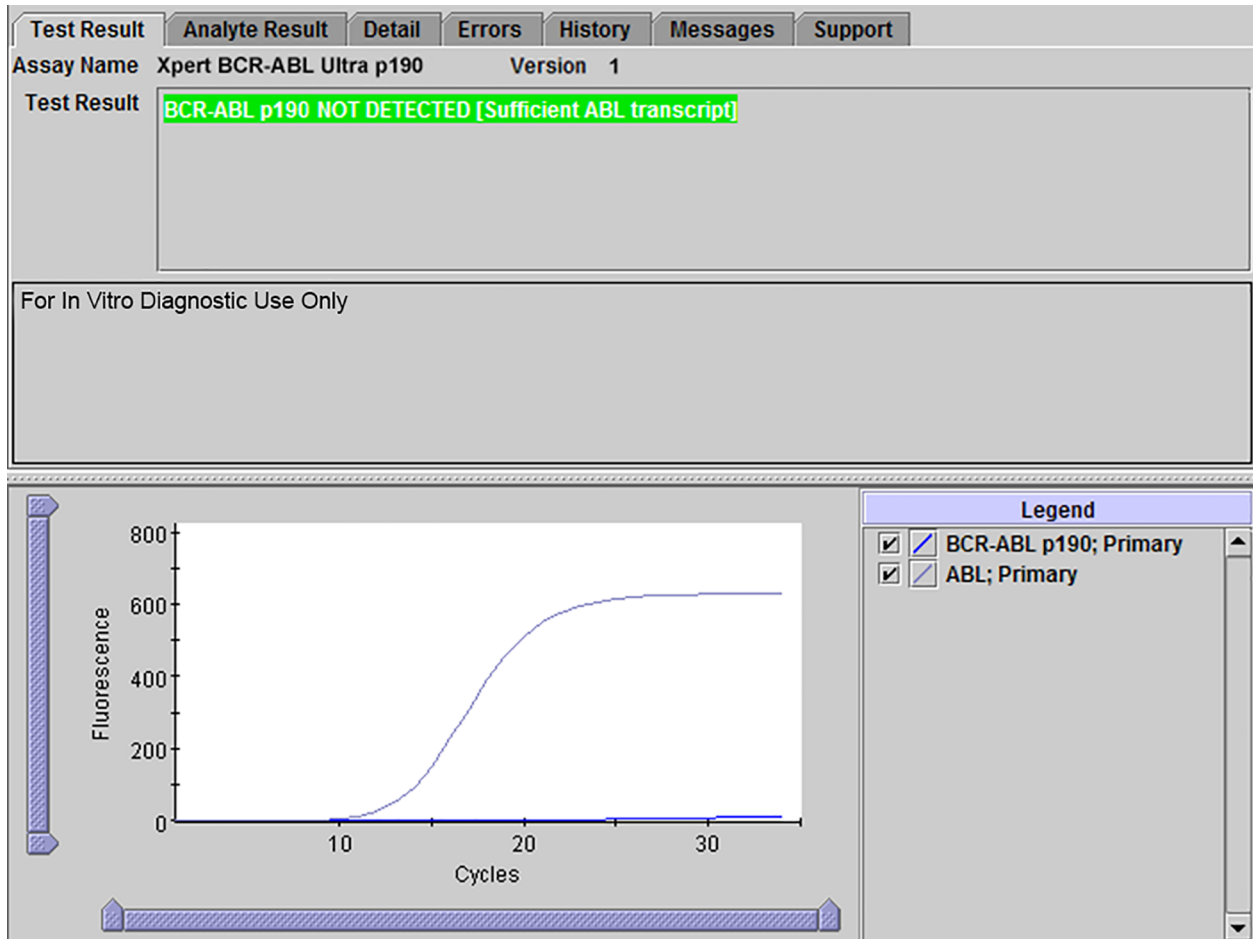

Figure 5. GeneXpert Dx View Results Window: BCR-ABL p190 NOT DETECTED [Sufficient ABL transcript]
|   |  | NEG          | BCR-ABL p190 NOT DETECTED [Sufficient ABL transcript] | e1a2 Ct is zero or above the acceptance threshold. See Figure 5.                        |
**Result:** BCR-ABL p190 NOT DETECTED [Sufficient ABL transcript]. See Figure 5.